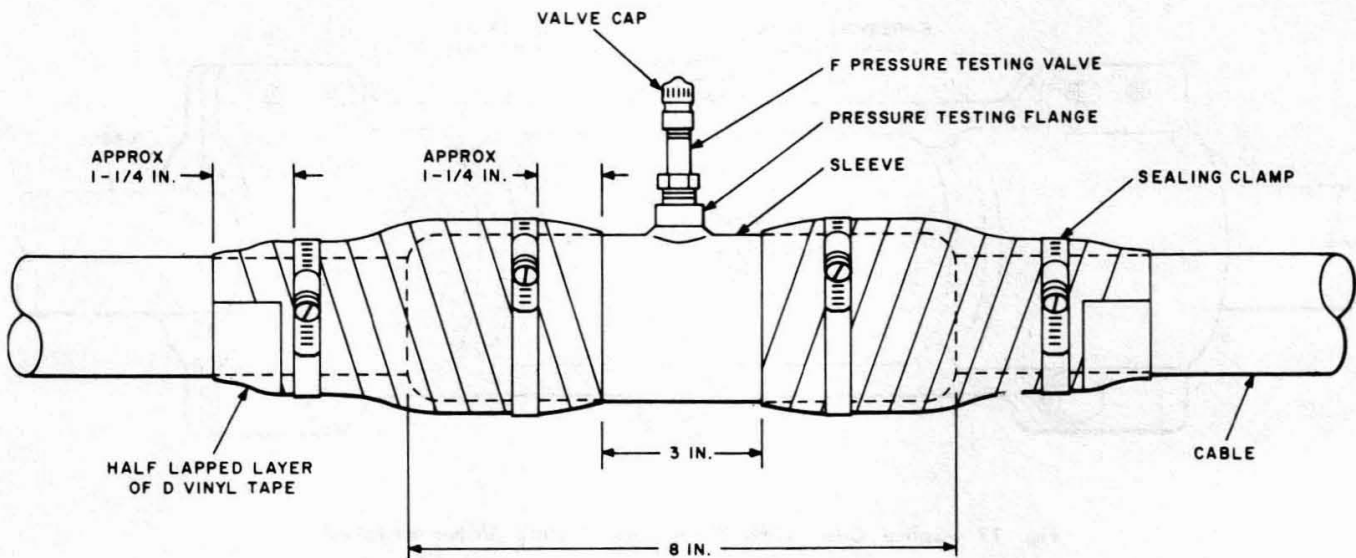

Fig. 18—Split Sleeve Installed
- (4) Wrap the outer jacket with muslin to avoid damaging the polyethylene with heat when soldering the sleeve. Place the lead sleeve on the cable. Close the split in the sleeve with a seam of solder, and solder the pressure flange onto the sleeve.
- (5) Allow the sleeve to cool. Remove the muslin wrapping and position the sleeve on the cable with the hole in the sleeve over the hole in the sheath. Beat in each end of the sleeve to fit snugly on the polyethylene jacket.
- (6) Construct a wrapped joint on each end of the sleeve, as covered in Section 633-300-200.
- (7) Position two sealing clamps on each wrapped joint as described in Section 633-300-204. The complete installation is shown in Fig. 18.